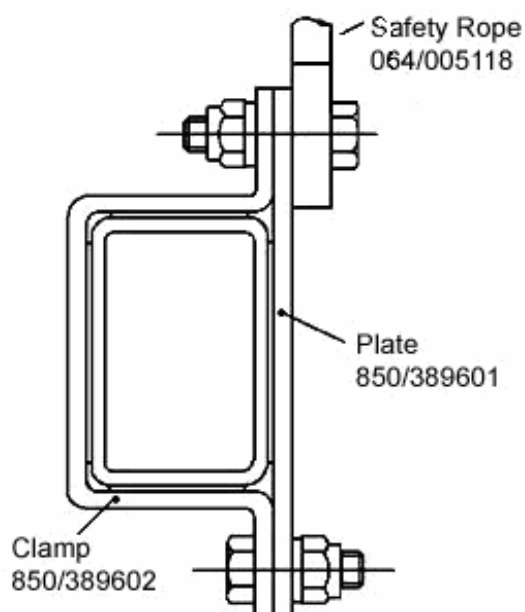

Figure 2: Rod to Axlebox Safety Rope Bracket
2. Check that the rod to axlebox rope and bracket is to Figure 2 (taken from Drg B2-A1-8504080). If it is carry out item 3.